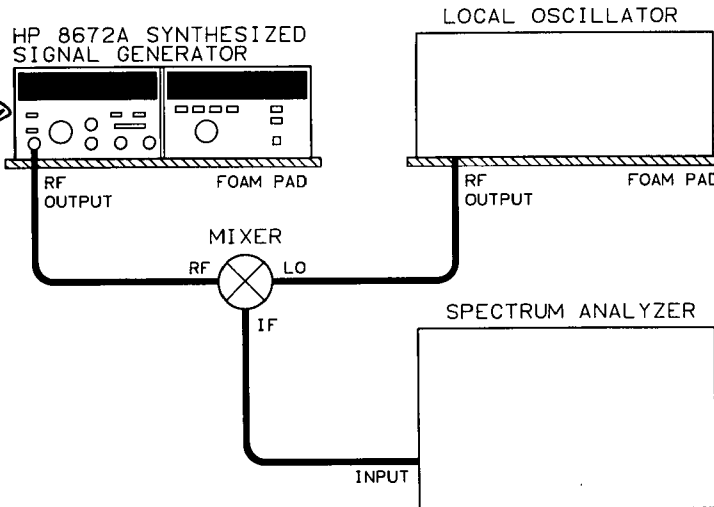

Figure 4-11. Power Line Related Spurious Signals Test Setup
1. Place the Signal Generator on a 2-inch foam pad. Connect the equipment as shown in Figure 4-11.